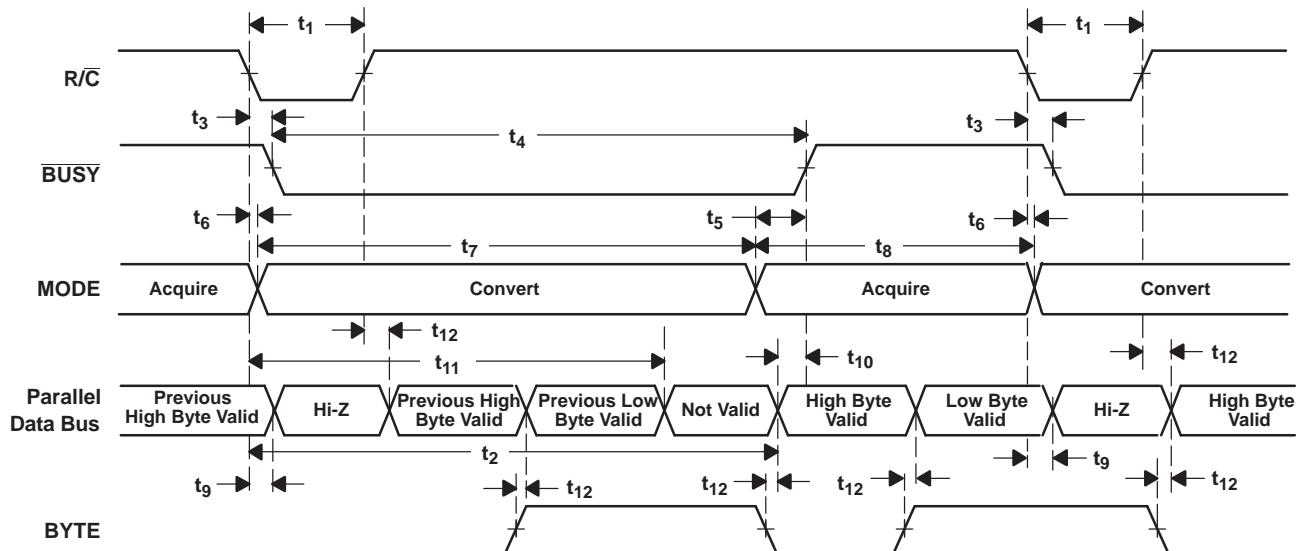
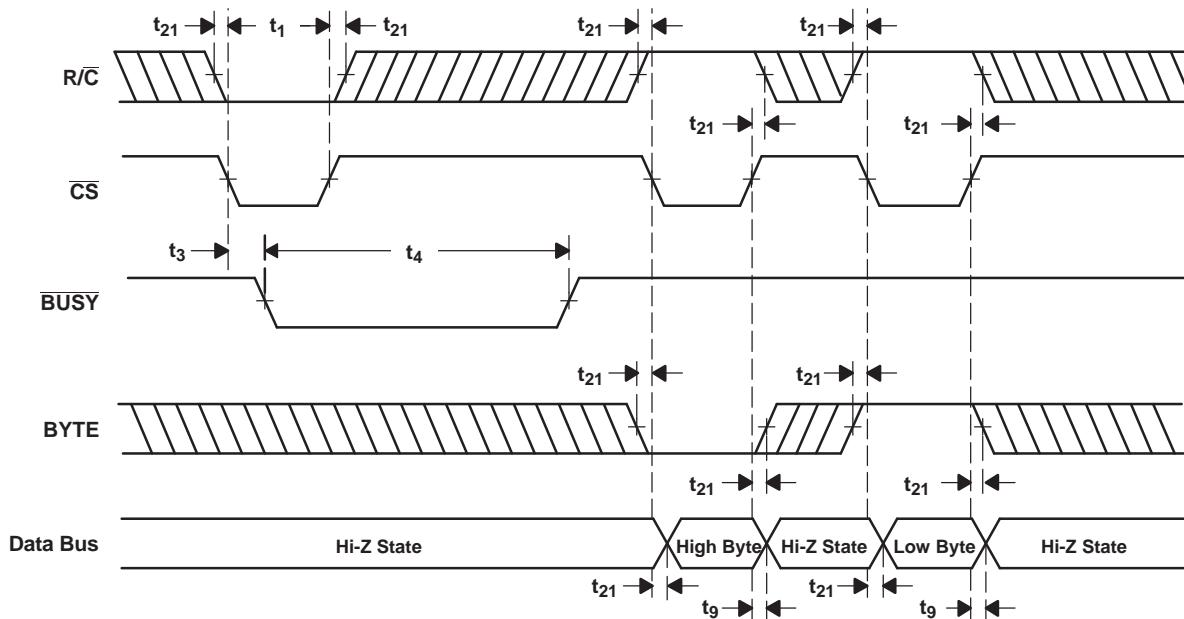

Figure 33. Conversion Timing With Parallel Output (CS and DATACLK Tied Low, EXT/INT Tied High)
Figure 34. CS to Control Conversion and Read Timing With Parallel Outputs
The ADS8507 begins tracking the input signal at the end of the conversion. Allowing 25 μ s between convert commands assures accurate acquisition of a new signal. Refer to Table 2 and Table 3 for a summary of \overline{CS} , $\overline{R/C}$, and \overline{BUSY} states, and Figure 33, Figure 34, Figure 35, Figure 36, Figure 37, Figure 38, and Figure 39 for timing diagrams.
(1) See Figure 33 and Figure 34 for constraints on data valid from conversion $N-1$.
After conversion N is completed and the output registers have been updated, BUSY (pin 24) goes high. Valid data from conversion N is available on D7-D0 (pin 9-13 and 15-17). BUSY going high can be used to latch the data. Refer to Table 5 and Figure 33 and Figure 34 for timing specifications.
After conversion N has been initiated, valid data from conversion $N-1$ can be read and is valid up to 12 μ s after the start of conversion N . Do not attempt to read data beyond 12 μ s after the start of conversion N until BUSY (pin 24) goes high; this may result in reading invalid data. Refer to Table 5 and Figure 33 and Figure 34 for timing constraints.